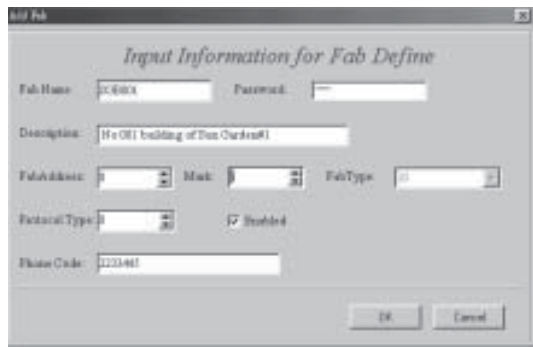

Fig. 4-7 Adding or Modifying FABs Dialogue Frame 2
2.1 Click 'Add' and enter the next dialogue frame as in Fig. 4-7. Enter the Controller Name, Controller Address and Controller Type.